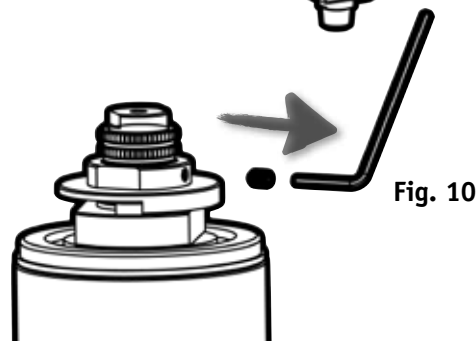

Fig. 10
3) Remove HANDLE STOPPER SCREW 10 using 1.5mm ALLEN KEY from SECURING HOLE 11 (Fig. 10)